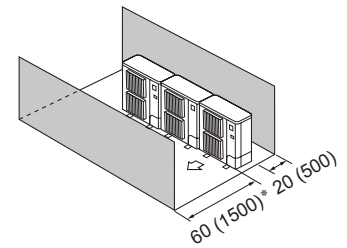

Fig. 2-15
- ④ Obstacles at front and rear (Fig. 2-15)